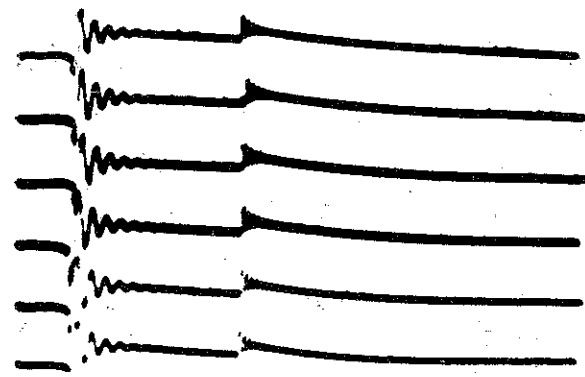
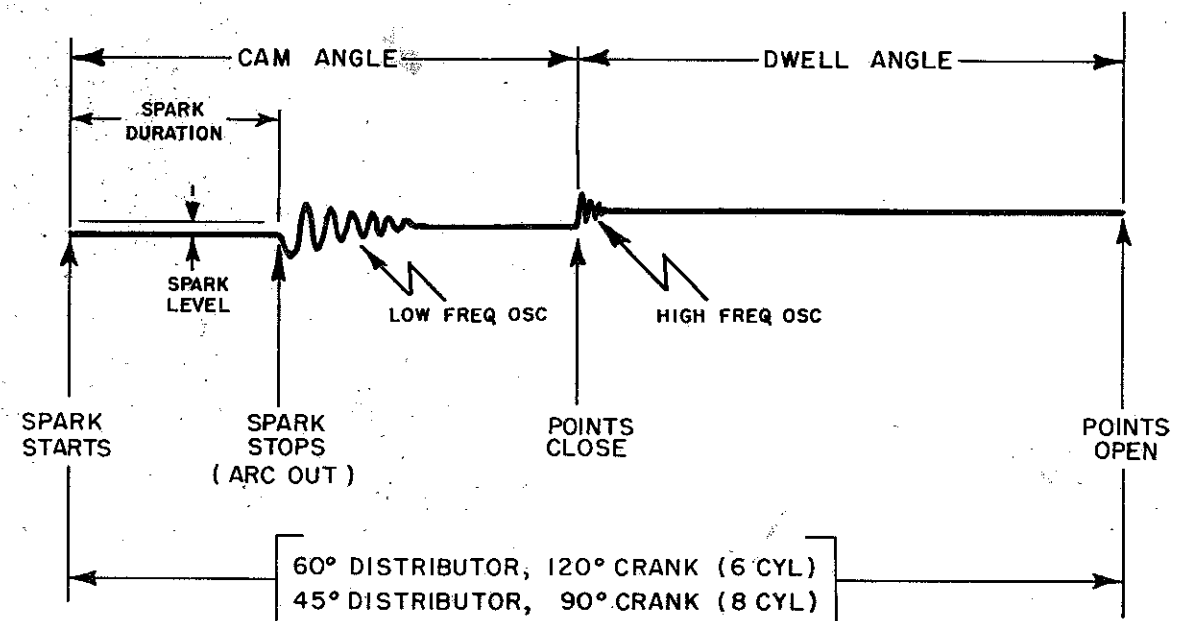

Figure 2-2. Standard Pattern (6 cyl.)
Figure 2-4. Waveform Analysis
After following the above steps, the pattern appearing on the screen should resemble either Figure 2-2 or 2-3 shown below, provided the ignition system is operating satisfactorily.
Step 4. Determine spark duration, cam angle, and dwell angle (see Figure 2-4).
Step 6. Examine duration of low-frequency oscillations (widely-spaced wiggles—Figure 2-4).
Step 7. Check the points close signals to see that they align one under the other (with no offset) as shown in Figure 2-2 or 2-3.
(a) check that the high-frequency oscillations (closely-spaced wiggles—Figure 2-4) appear as shown in Figure 2-2 or 2-3.
Step 8. Check the points open signal to see that they align one under the other (with no offset) as shown in Figure 2-2 or 2-3.
c. Low-frequency oscillation (see Figure 2-4) are a function of time. If speed is doubled, base line will be drawn out in one-half the time. Hence, the low-frequency oscillations appear twice as long.